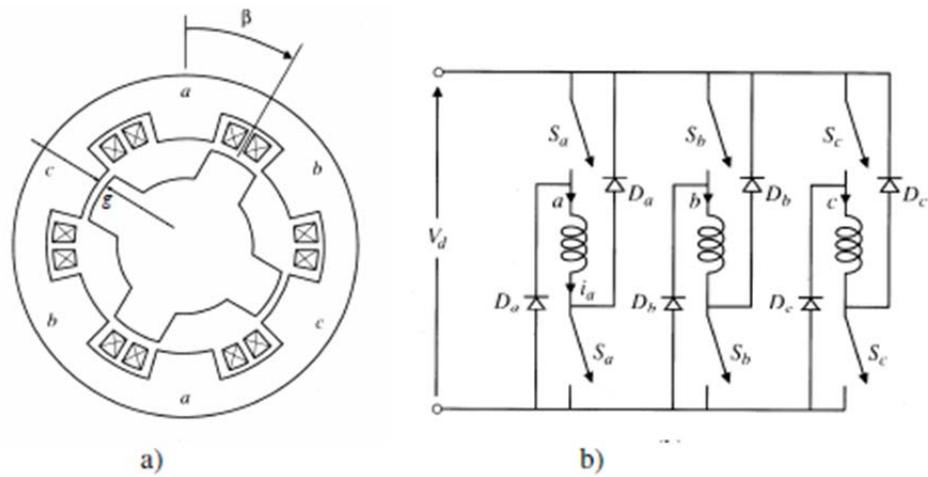
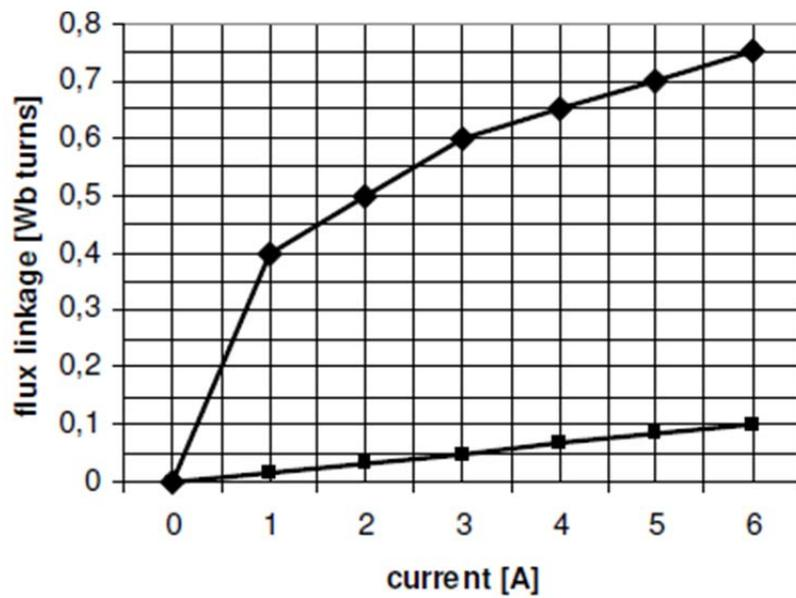

Figure 1
Figure 2
4. A switched reluctance motor of the form shown in Fig. 1(a) has four rotor poles and six stator poles. The values of the stator pole arc and the rotor pole arc are 30° and 40° , respectively. The flux linkage-current relations for a typical stator phase are shown in idealized form for the maximum- and minimum-reluctance rotor position in Fig. 2. Each phase winding, consisting of two coils in series, has a resistance of 5Ω . The nominal speed is 3000 rpm.
a) Assuming ideal switching action in a power converter of the form of Fig. 1(b), find the **average power** that can be produced by this motor with a supply current of 3 A.
- d) How does a decreased air gap, g , (between rotor and stator poles as seen in figure 1 a) influence the phase inductance of the switched reluctance machine, at aligned (L_a) and unaligned (L_u) positions?